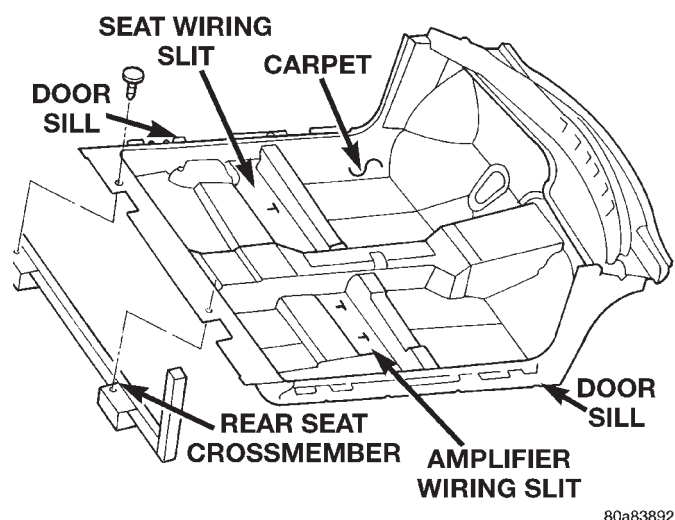

Fig. 67 Carpet Fasteners
- (1) Lower convertible top to full down position.
- (2) Remove front seats.
- (3) Remove rear seat cushion.
- (4) Remove floor console and forward instrument panel console.
- (5) Remove door sill trim panels.
- (6) Remove cowl trim panels.
- (7) Remove quarter trim panels.
- (8) Remove amplifier on passenger side of floor pan, if so equipped.
- (9) Remove wiring troughs holding carpet at outboard ends of rear seat crossmember.
- (10) Remove push-in fasteners from rear of carpet holding carpet to rear seat crossmember (Fig. 67).
- (11) Remove plastic sill retainers from metal clips along door sill panel.
- (12) Separate carpet from vehicle (Fig. 67).